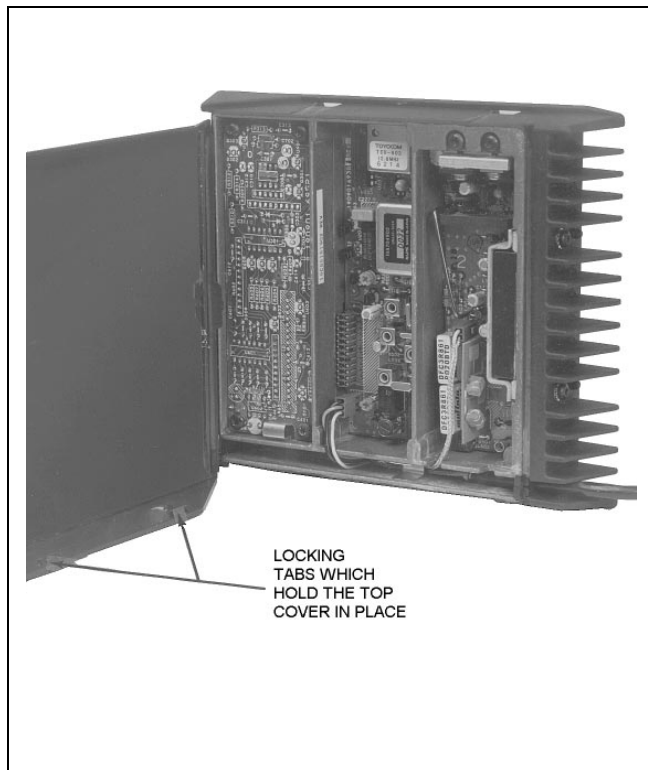

Figure 2 - Removing Top Cover
1. After removing the bottom cover, rotate the latch, pry a side loose, and remove the top cover (see Figure 2).